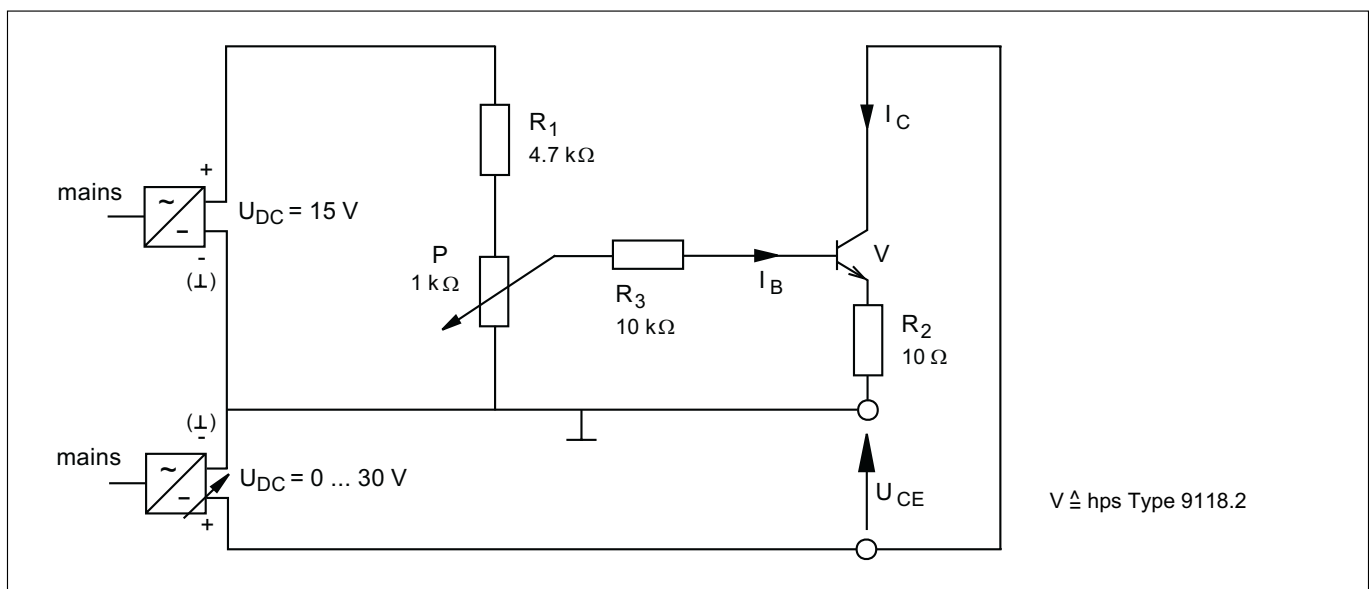

Fig. 4.3.2.3
- Then modify the circuit according to Fig. 4.3.2.4. Measure the base/emitter voltages U_{BE} with varying base currents I_B and collector/emitter voltages U_{CE} , according to Table 4.3.2.4. Enter the values in Table 4.3.2.4. Plot a graph showing the dependence of the base/emitter voltage on the collector/emitter voltage $U_{BE} = f(U_{CE})$ with varying base currents in the fourth quadrant of the diagram (Table 4.3.2.5).